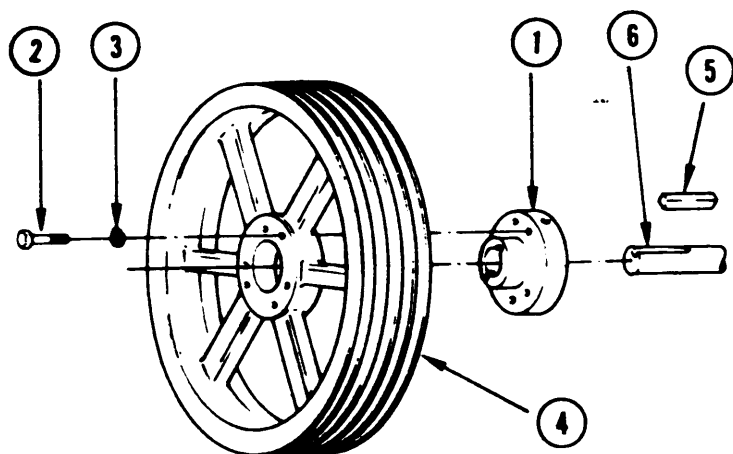

Figure 2-92. R.O. Pump Pulley (Sheave)
b. Removal. (Figure 2-92)
- (1) Remove drive belt shroud and drive belts in accordance with paragraphs 2-75 and 2-76.
- (1) Replace damaged nuts, bolts, screws, and washers.
- (2) Replace cracked or damaged hub.
- (3) Replace cracked or damaged sheave.
- (4) Replace damaged shaft key.
- (5) Repaint in accordance with Standard Operating Procedures.
- (6) Send all replaced parts to Direct Support Maintenance.
f. Installation. (Figure 2-92)
- (1) Insert shaft key (5) into shaft keyway (6).
- (2) Align and press hub (1) onto R.O. pump shaft (6).
- (3) Tighten setscrew on hub (1).
- (4) Place sheave (4) onto hub (1) and attach with three lockwashers (3) and three bolts (2).